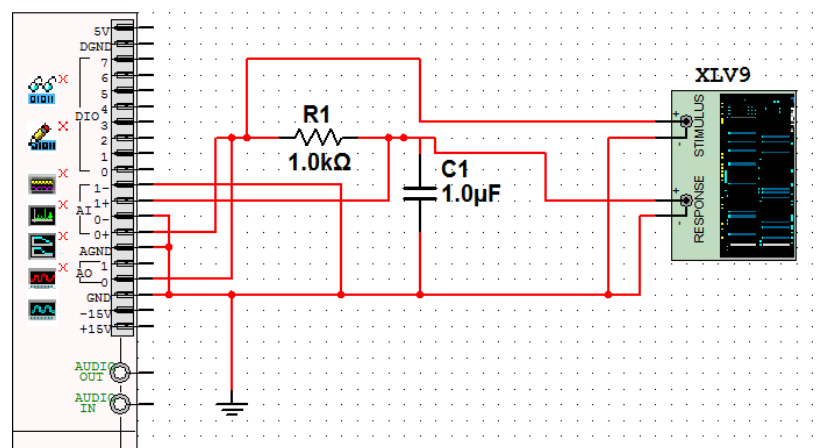

Figure 5: Bode Analyzer
6. Connect the Stimulus to the input the circuit and the Response to the output of the circuit so that it looks like Figure 5.